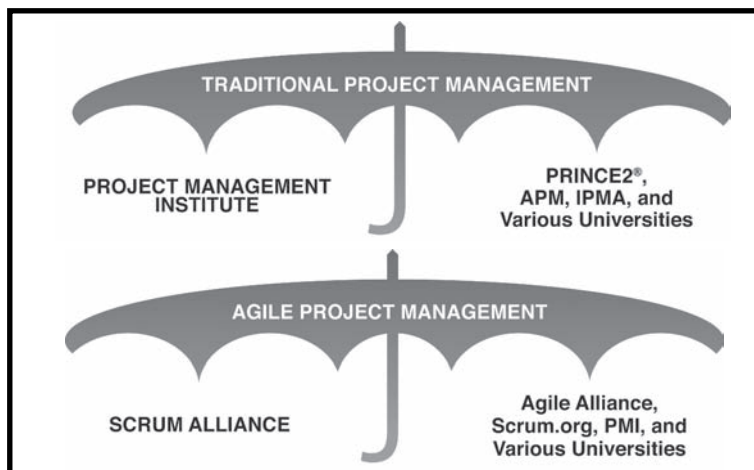

Figure 2.2 A Comparison of Traditional and Agile PM Industry Participants.
Under the “Agile” project management umbrella, the Scrum Alliance (SA) is the biggest player because it has the largest membership base specifically in the agile sphere. It developed and controls the most recognized certification – the Certified Scrum Master (CSM) – for practitioners in the agile PM discipline. However, a host of smaller regional and local players offer competing memberships and certifications as well. (See Figure 2.2)